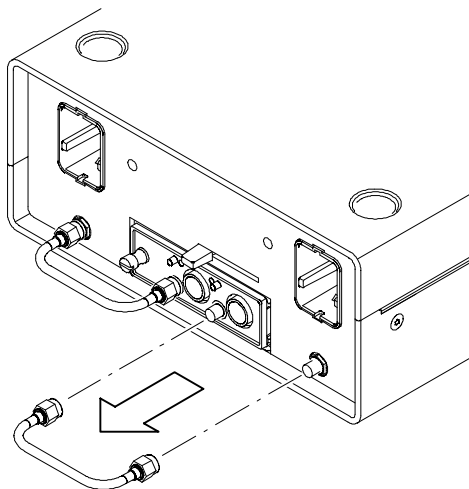

Figure 8: Removing the semi-rigid cable
1. Remove the semi-rigid cable that connects the CH B TekConnect Probe Interface Module to the sampling module. See Figure 8.
1. Remove the semi-rigid cable that connects the CH B TekConnect Probe Interface Module to the sampling module. See Figure 8 on page 15.